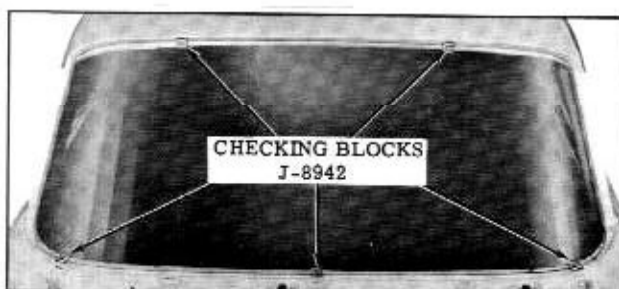

Fig. 15-7 Body Windshield Opening
4. Install five (5) windshield checking blocks J-8942 to pinchweld flange. (Fig. 15-7) Position one block over lower pinchweld flange on each side of body approximately twelve inches inboard from the lower outer corner of the opening. Position final block on lower pinchweld flange in center of windshield opening. Position one block over upper pinchweld flange midway between center block and each outboard block on lower retaining flange.